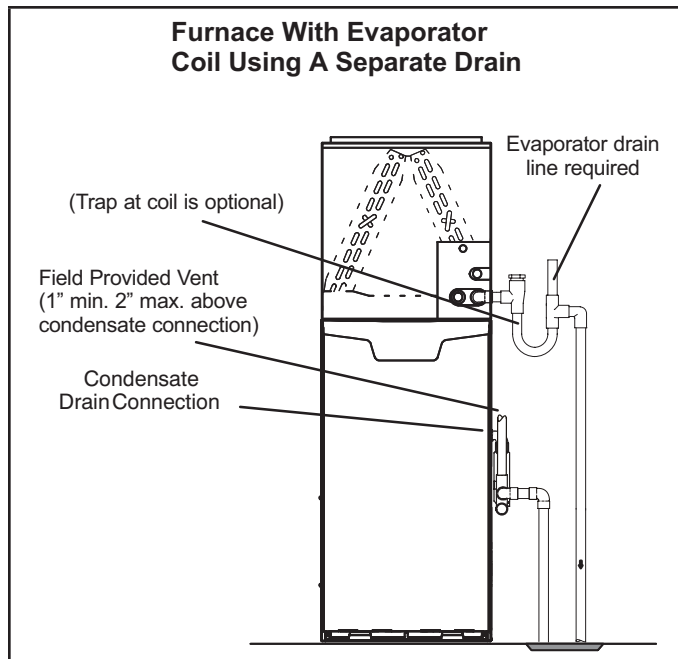
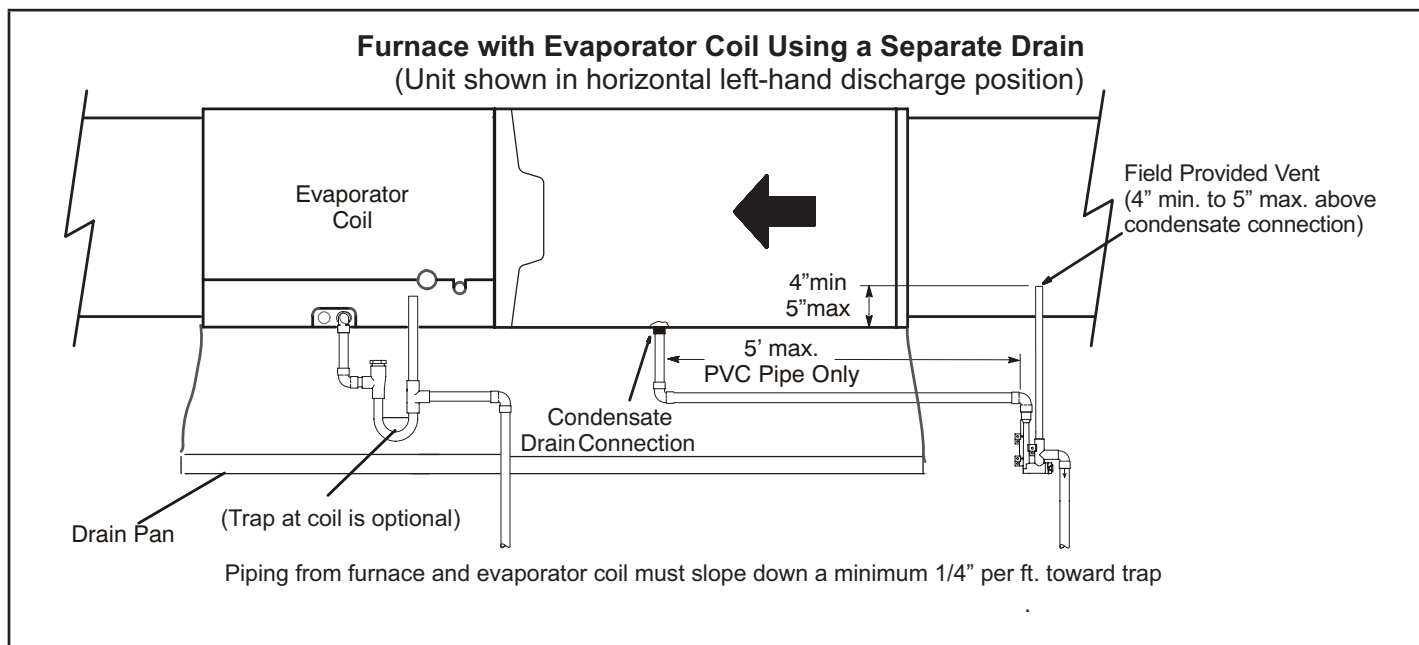
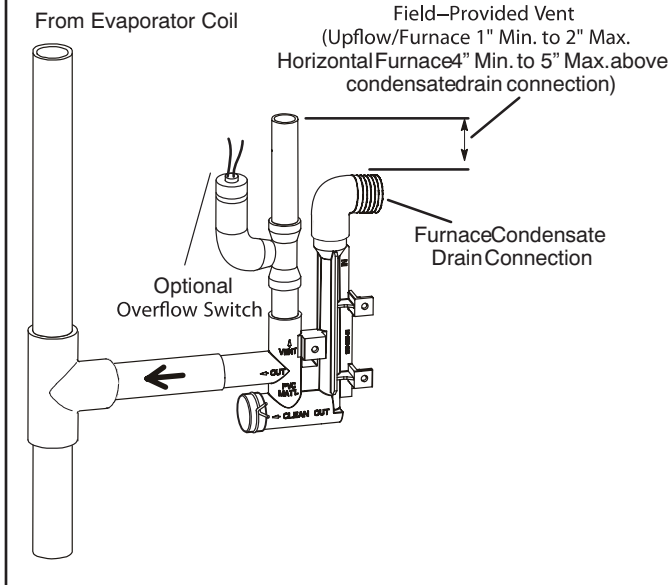
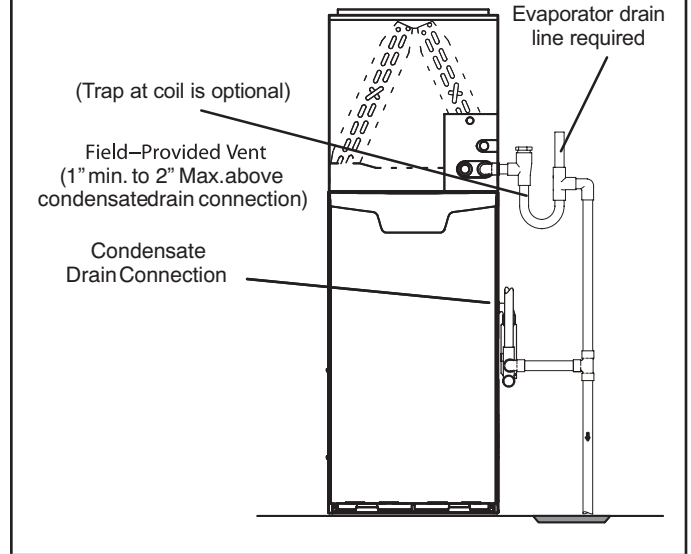

FIGURE 49
FIGURE 50
FIGURE 51
FIGURE 52
- 5 - FIGURE 49 and FIGURE 50 show the furnace and evaporator coil using a separate drain. If necessary the condensate line from the furnace and evaporator coil can drain together. See FIGURE 51, FIGURE 52 and FIGURE 53. **Upflow furnace (FIGURE 52)** - In upflow furnace applications the field provided vent must be a minimum 1" to a maximum 2" length above the condensate drain outlet connection. Any length above 2" may result in a flooded heat exchanger if the combined primary drain line were to become restricted.